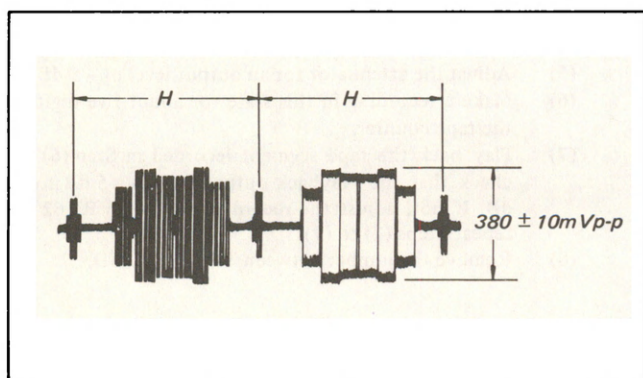

Fig. 4-41. Chroma record current adjustment
- (1) Supply the color bar signal and set up the STOP mode.
- (2) Connect the oscilloscope to the mid point of RV1.
- (3) Adjust RV1 for 380 ± 10 mVp-p. (See Fig. 4-41.)